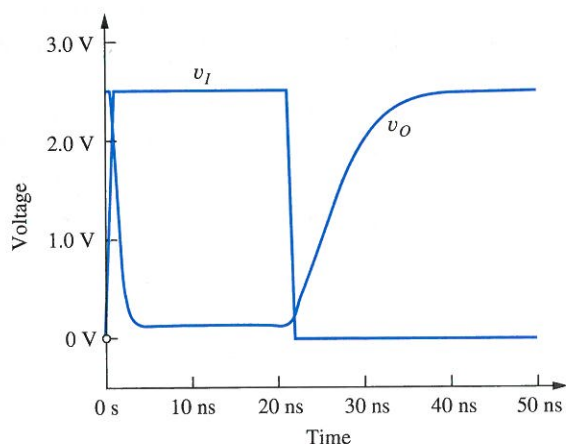

Figure P6.12
- 6.12. The graph in Fig. P6.12 gives the results of a SPICE simulation of an inverter. What are V_H and V_L for this gate?
- 6.21. The graph in Fig. P6.12 gives the results of a SPICE simulation of an inverter. (a) What are V_H and V_L for this gate? (b) What are the rise and fall times for v_I and v_O ? (c) What are the values of τ_{PHL} and τ_{PLH} ? (d) What is the average propagation delay for this gate?